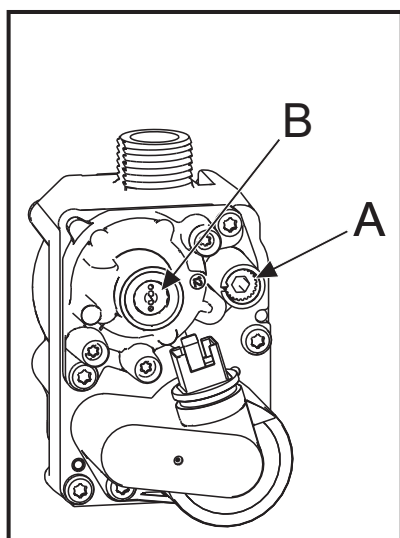

fig. 29 - Gas valve
- Now adjust the **Throttle setting** (fig. 29 - screw **A**) until the CO₂ is at the correct **SETTING LEVEL** (see table 8), confirm that the CO/CO₂ ratio is within limits (clockwise to increase gas).
- Now adjust the **offset pressure setting** (fig. 29 - screw **B**) until the CO₂ is at the correct **SETTING LEVEL** (see table 9), confirm that the CO/CO₂ ratio is within limits (clockwise to increase gas).